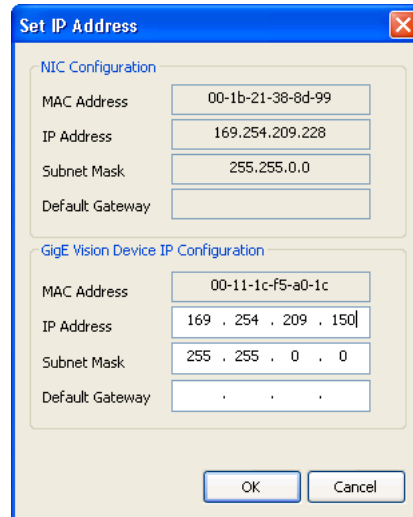

Figure 2.12: Setting IP address
4. Select a valid IP address for selected camera (see Fig. 2.12). There should be no exclamation mark on the right side of the IP address. Click on Ok in the Set IP Address dialog. Select the camera in the GEV Device Selection dialog and click on Ok.